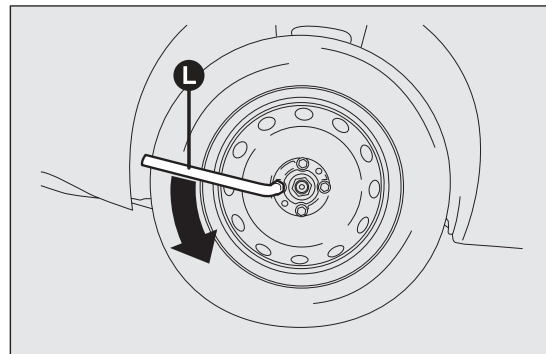

fig. I44
- ❑ loosen the bolts of the wheel to be replaced by about one turn with the wrench provided L fig. I44; if you have alloy rims, rock the car to make it easier to separate the rim from the wheel hub;